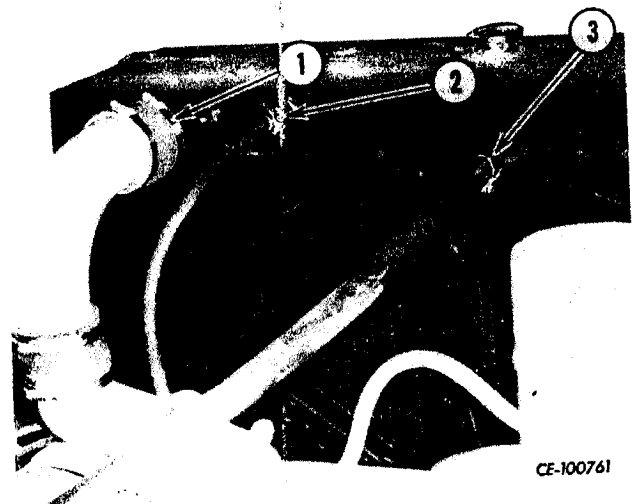

Figure 2-2
Disconnect oil cooler lines from connectors at bottom of radiator-oil cooler unit. Detach lower and upper (1, Fig. 2-2) radiator hoses, deaeration hose (2) and water pump hose (3).
Connect oil cooler lines and lower radiator hose. Make upper radiator connections (Fig. 2-2). Mount radiator drain in sidewall of fuel tank and secure with proper hardware.